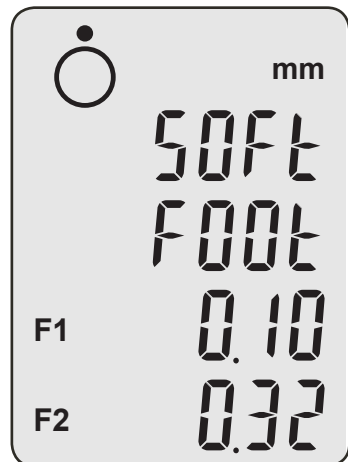

Fig. 28. Soft foot display
3. Press + and - simultaneously to reach the soft foot mode. The text “soft foot” should now be visible on the screen as shown on the figure 28.